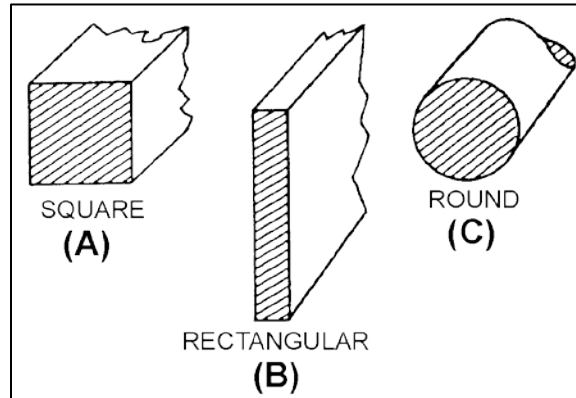
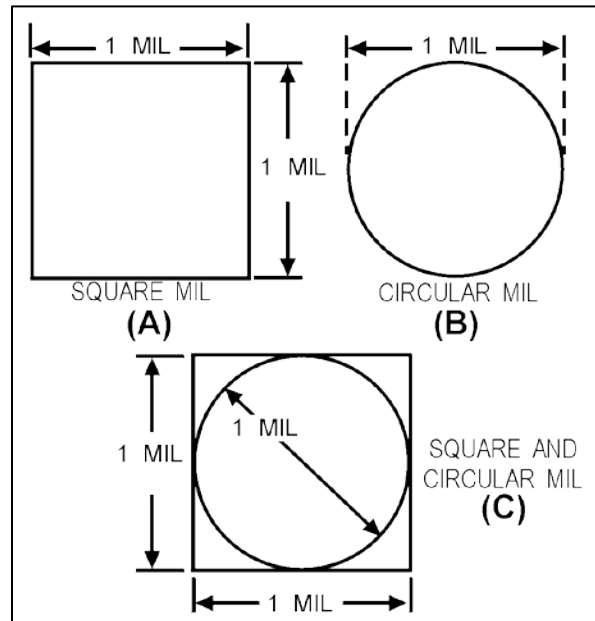

Figure 1: Cross-sectional areas of conductors.
Figure 2: A comparison of circular and square mils.
The **square mil** is a unit of measurement used to determine the cross-sectional area of a square or rectangular conductor (views A and B of Figure 1). A square mil is defined as the area of a square, the sides of which are each 1 mil. To obtain the cross-sectional area of a square conductor, multiply the dimension of any side of the square by itself. For example, assume that you have a square conductor with a side dimension of 3 mils. Multiply 3 mils by itself (3 mils x 3 mils). This gives you a cross-sectional area of 9 square mils.
The circular mil is the standard unit of measurement of a round wire cross-sectional area (view C of Figure 1). This unit of measurement is found in American and English wire tables. The diameter of a round conductor (wire) used to conduct electricity may be only a fraction of an inch. Therefore, it is convenient to express this diameter in mils to avoid using decimals. For example, the diameter of a wire is expressed as 25 mils instead of 0.025 inch. A circular mil is the area of a circle having a diameter of 1 mil, as shown in view B of Figure 2. The area in circular mils of a round conductor is obtained by squaring the diameter, measured in mils. Thus, a wire having a diameter of 25 mils has an area of 25^2 , or 625 circular mils. To determine the number of square mils in the same conductor, apply the conventional formula for determining the area of a circle ($A = \pi r^2$). In this formula, A (area) is the unknown and is equal to the cross-sectional area in square mils, π is the constant 3.14, and r is the radius of the circle, or half the diameter (D). Through substitution, $A = 3.14, \text{ and } (12.5)^2$; therefore, $3.14 \times 156.25 = 490.625$
If a wire has a cross-sectional diameter of 1 mil, by definition, the circular mil area (CMA) is $A = D^2$, or $A = 1^2$, or $A = 1$ circular mil. To determine the square mil area of the same wire, apply the formula $A = \pi r^2$; therefore, $A = 3.14 \times (0.5)^2$ (0.5 representing half the diameter). When $A = 3.14 \times 0.25$, $A = 0.7854$ square mil. From this, it can be concluded that 1 circular mil is equal to 0.7854 square mil. This becomes important when square (view A of Figure 2) and round (view B) conductors are compared as in view C of Figure 2.